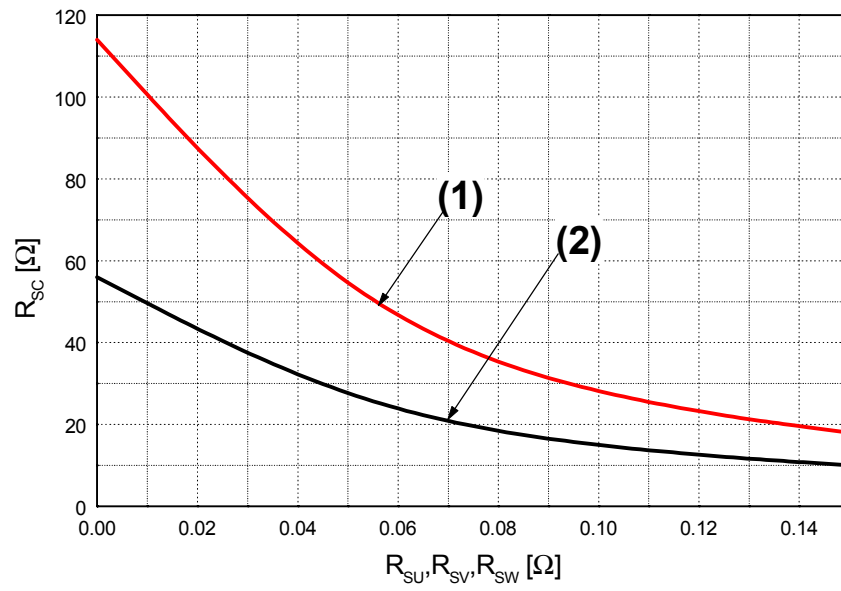

Fig. 6. R_{SC} Variation by change of Shunt Resistors (R_{SU} , R_{SV} , R_{SW}) for Short-Circuit Protection
5. Short-circuit current protection is functioning only at the low-sides. It would be recommended that the value of the external sensing resistor (R_{SC}) should be selected around 56 Ω in order to make the SC trip-level of about 15A at the shunt resistors (R_{SU}, R_{SV}, R_{SW}) of 0 Ω . For the detailed information about the relationship between the external sensing resistor (R_{SC}) and the shunt resistors (R_{SU}, R_{SV}, R_{SW}), please see Fig. 6.